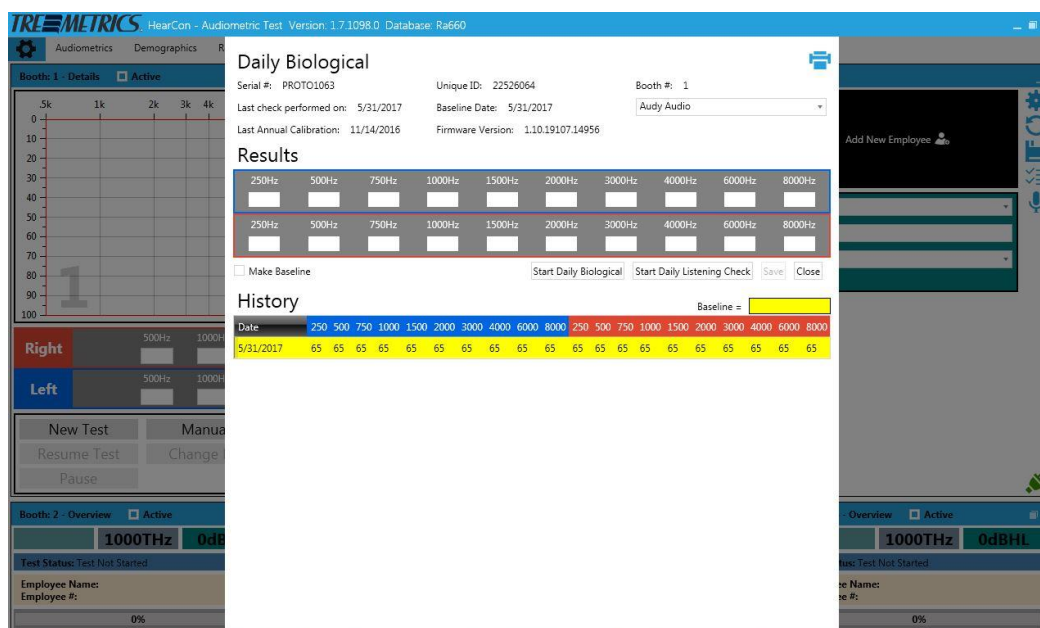

Figure 38
- Back at the PC select **Save** and **Close** on the Daily Biological window. The **Daily Biological** window closes, and the Daily Biological is complete (Figure 38).